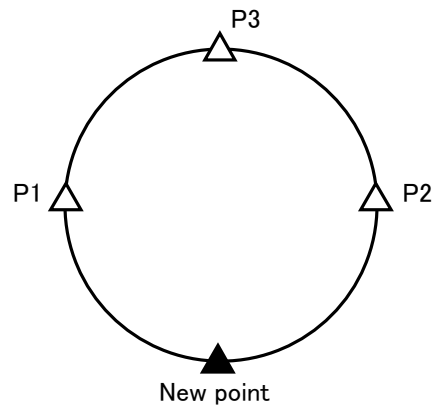

Fig. 2
- 4) A new point (station point) and three or more known points are arranged on the same circumference. See above Fig. 2.